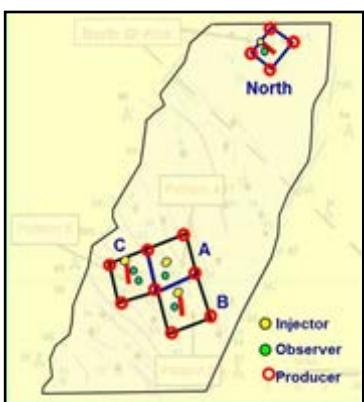

Figure 1: GI Pilot Configuration
- North GI Pattern, is a single inverted 5-spot pattern, 1Km², consists of; 1 horizontal gas injector at the center of the pattern, with 1 observation well (100 m distance), and 4 horizontal oil producers, single completion. Figure 1